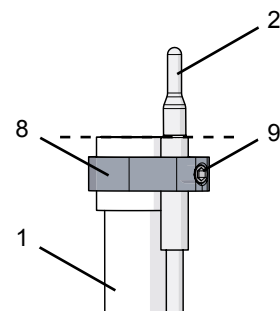

Fig. 2
- ⇒ Push the sensor holder over the mixing tube and sensor so that they sit approximately in the middle of the upper part of the mixing tube (Fig. 2).
- ⇒ Position the sensor so that the upper edge of the sensor's brass sleeve and the upper edge of the mixing tube are in line (Fig. 2).